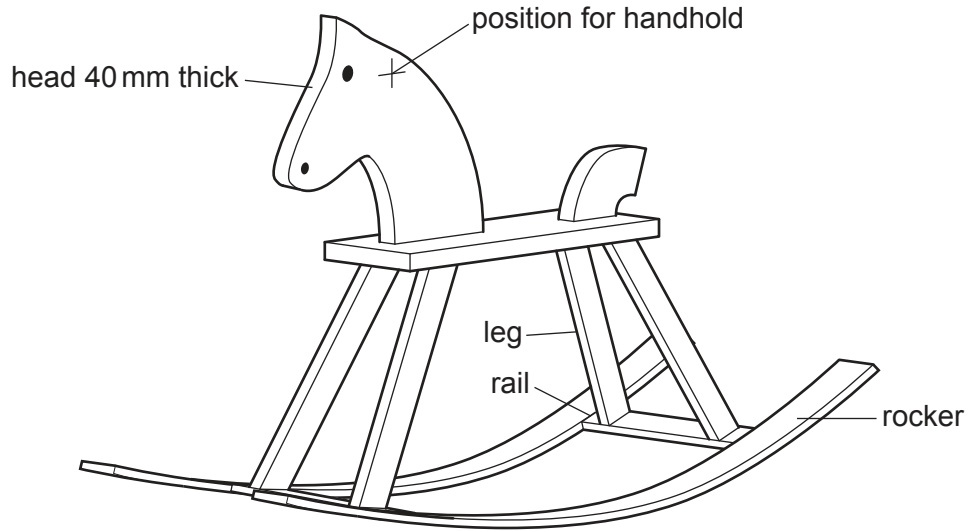

Fig. 11.1
- 11 Fig. 11.1 shows a child's rocking horse made from hardwood.
- (b) The position for a handhold is shown in Fig. 11.1.